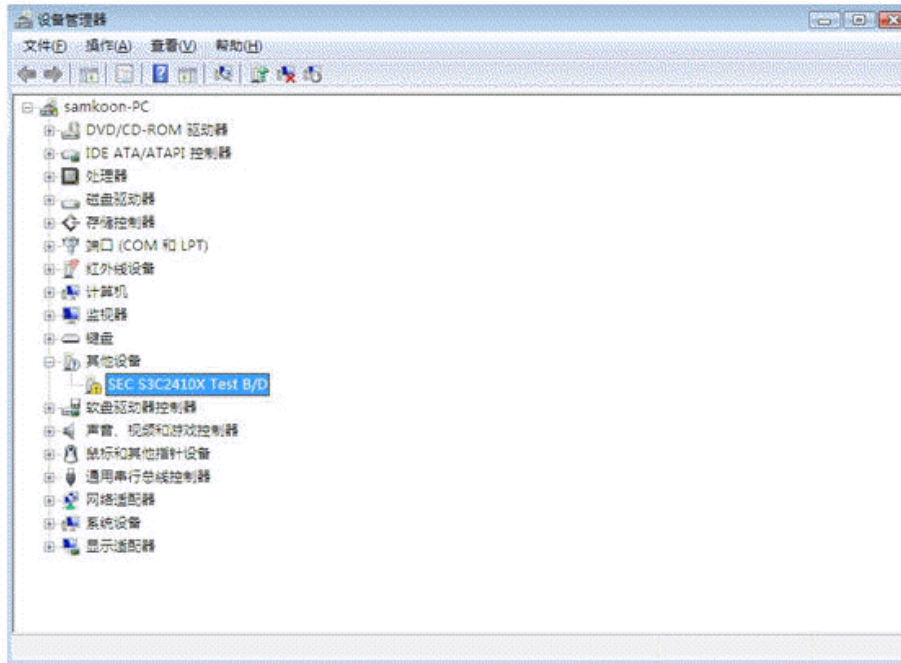

Figure 2-22: Device manager page of VISTA
- Select “Ask me later”, and then open the device manager to find the touch screen equipment. Right click on the equipment, and choose to update the driver. See Figure 2-22.